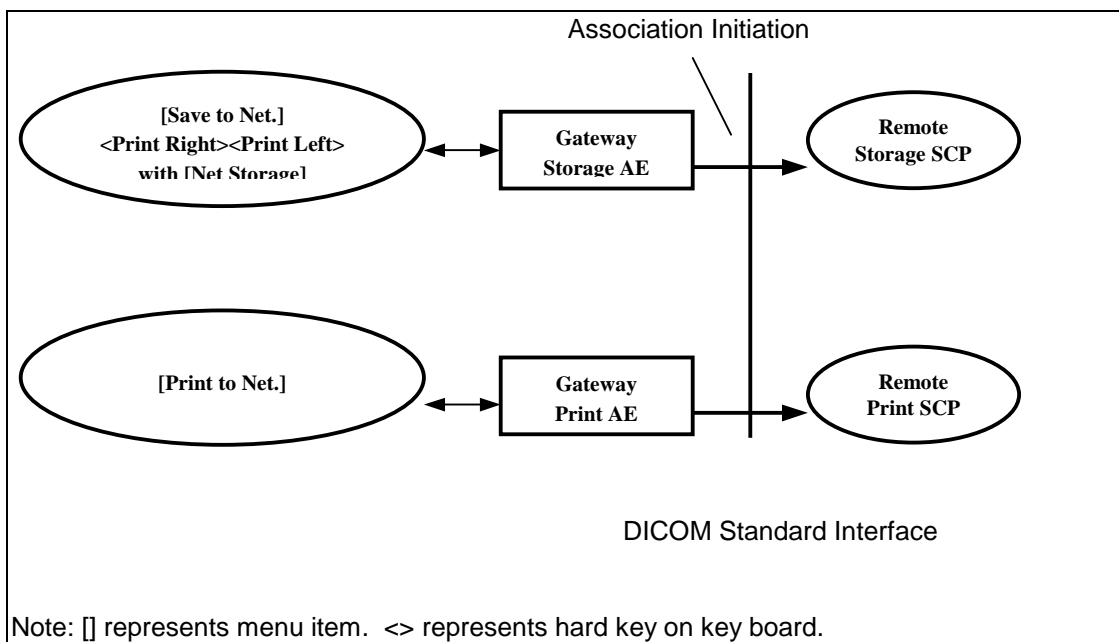

Figure 1. GATEWAY Implementation Model
Figure 1 illustrates the two Application Entities (AE) present on the GATEWAY system and the relationships of those AE's use of DICOM to Real-World Activities.